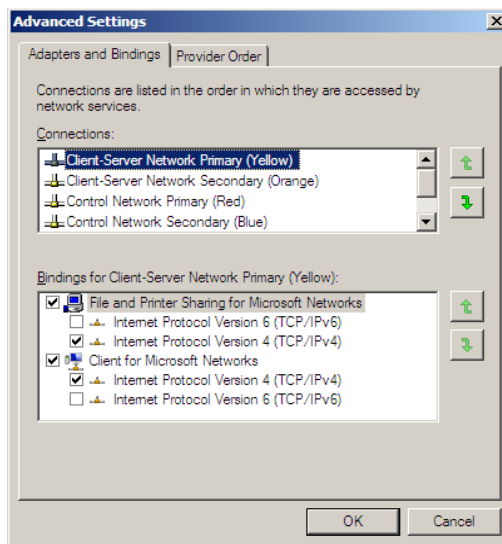

Figure 56. Network Interface Order
3. Set the order of the Network Interfaces in the **Adapters and Bindings** tab, according to Figure 56.